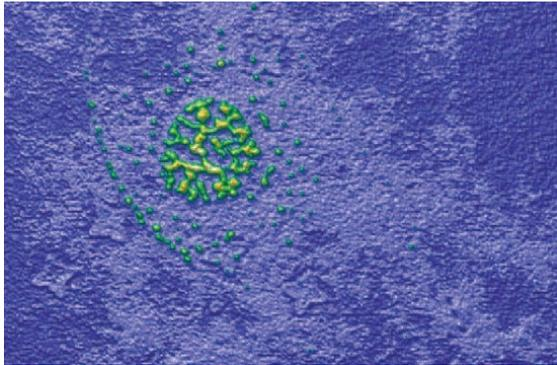

Fig.2: AFM height image of DNA capture probes dissolved in phosphate buffer
- Topographical information of bio-molecules (such as DNA) on a surface submerged in liquid (figure 2)